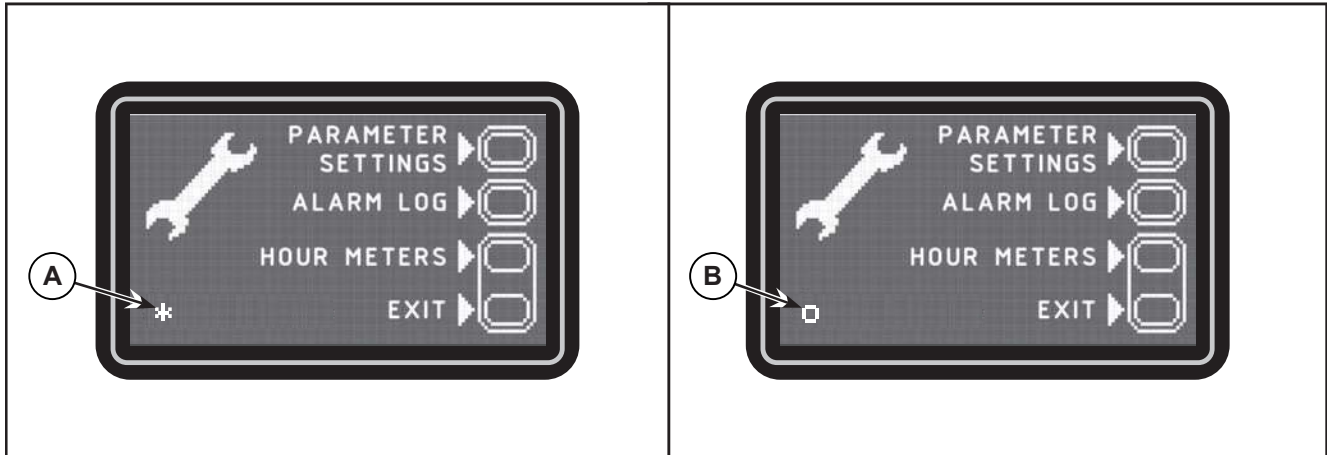

Figure 14:
1. Insert the Supervisor key (yellow) in place of the User key (grey or blue) to access the main screen (Figure 14) of the multifunction display.
2. With the solution tank more than half full, the symbol displayed is (A).
3. With the solution tank less than half full, the symbol displayed is (B).